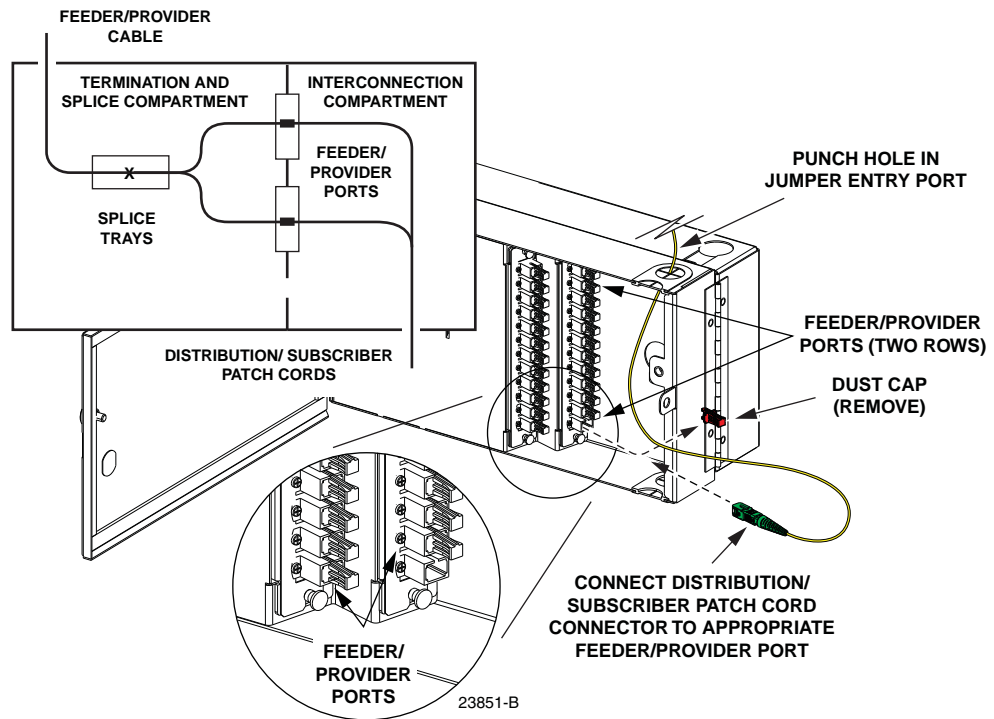

Figure 13. Interconnections - 24-Port IFDT Without Pre-Installed Distribution/Subscriber Pigtails
**24-port IFDT without pre-installed distribution/subscriber pigtails:** Service is initiated when a distribution/subscriber equipment patch cord connector is connected to the appropriate feeder/provider port as shown in Figure 13.